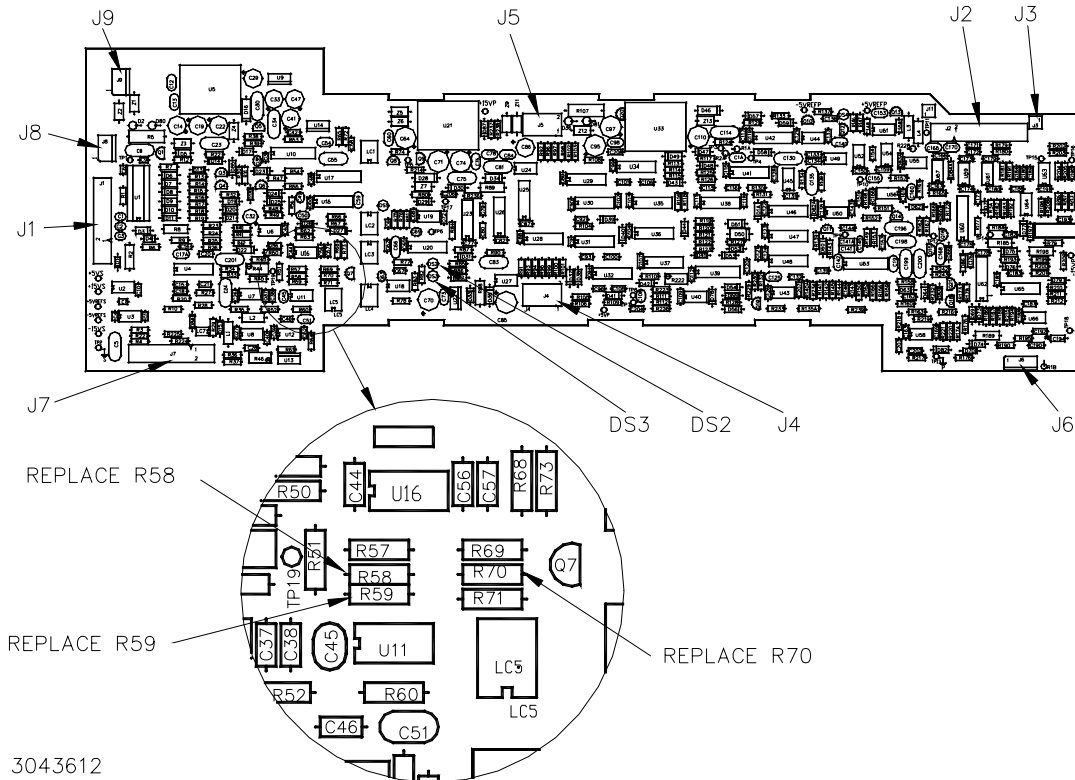

FIGURE 5. A4A3 COMPONENT LOCATIONS
- a. At top of A4A3 disconnect nine cables from J1 through J9 of A4A3 (Figure 5).
6. Unsolder and remove the following three resistors from A4A3 and replace with the resistors supplied as follows (see Figure 5 for location of A4A3 components):
6. Gradually increase the PS current, monitoring the DVM/ digital scope and the BOP front panel display and/or the internal LED indicators DS3 and DS2 on A3A4 (see Figure 5 for location of LEDs). DS3 is green and goes on when the Front End Module is in source mode of operation. DS2 is yellow and goes on when the Front End Module is in sink (recuperation) mode of operation.